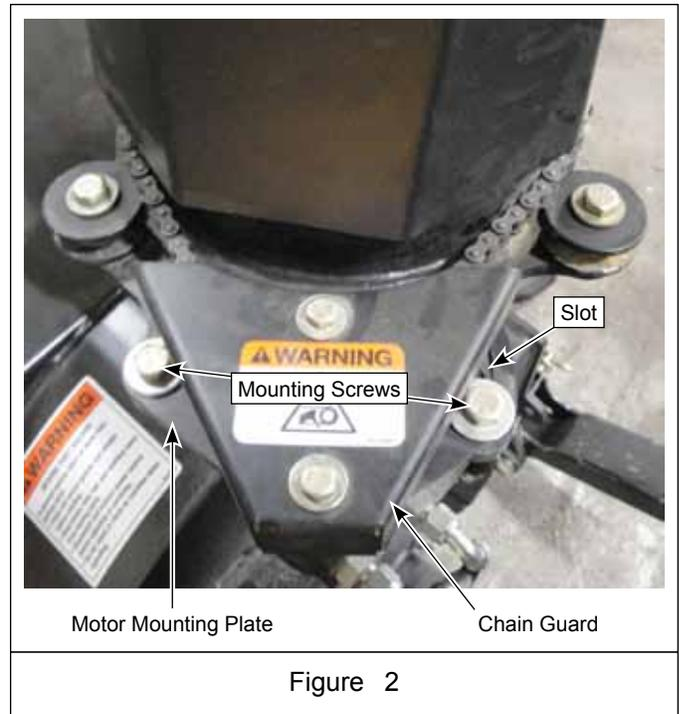

Figure 2
3. Remove 1/2-13 x 2-1/2" hex head capscrew, lock nut, flat washers and rear roller from impeller housing flange. Retain all parts. See Figure 2.
4. Remove two 3/8-16 x 3" hex head capscrews, lock washers, flat washers, chain guard and two spacers from motor mounting plate. Retain all parts. See Figure 2.
See Figure 2.